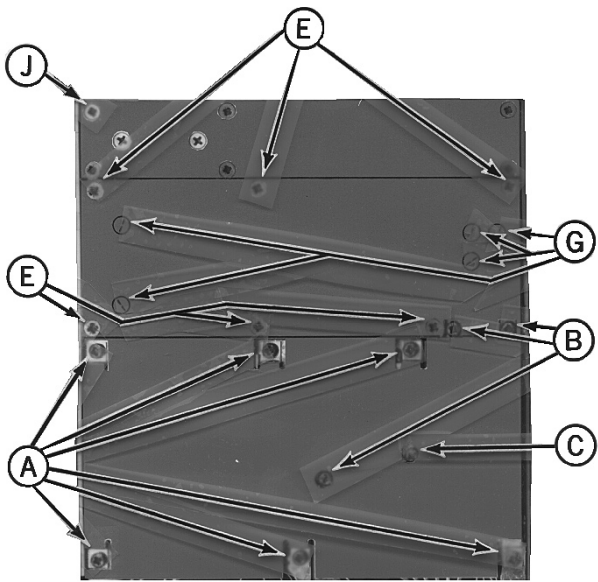

Figure 3 - Disassembly Procedure (Bottom View)
3. To gain access to the bottom of the Osc/Mult and IFAS board, remove the six screws (A) holding the receiver bottom cover (see Figure 3).